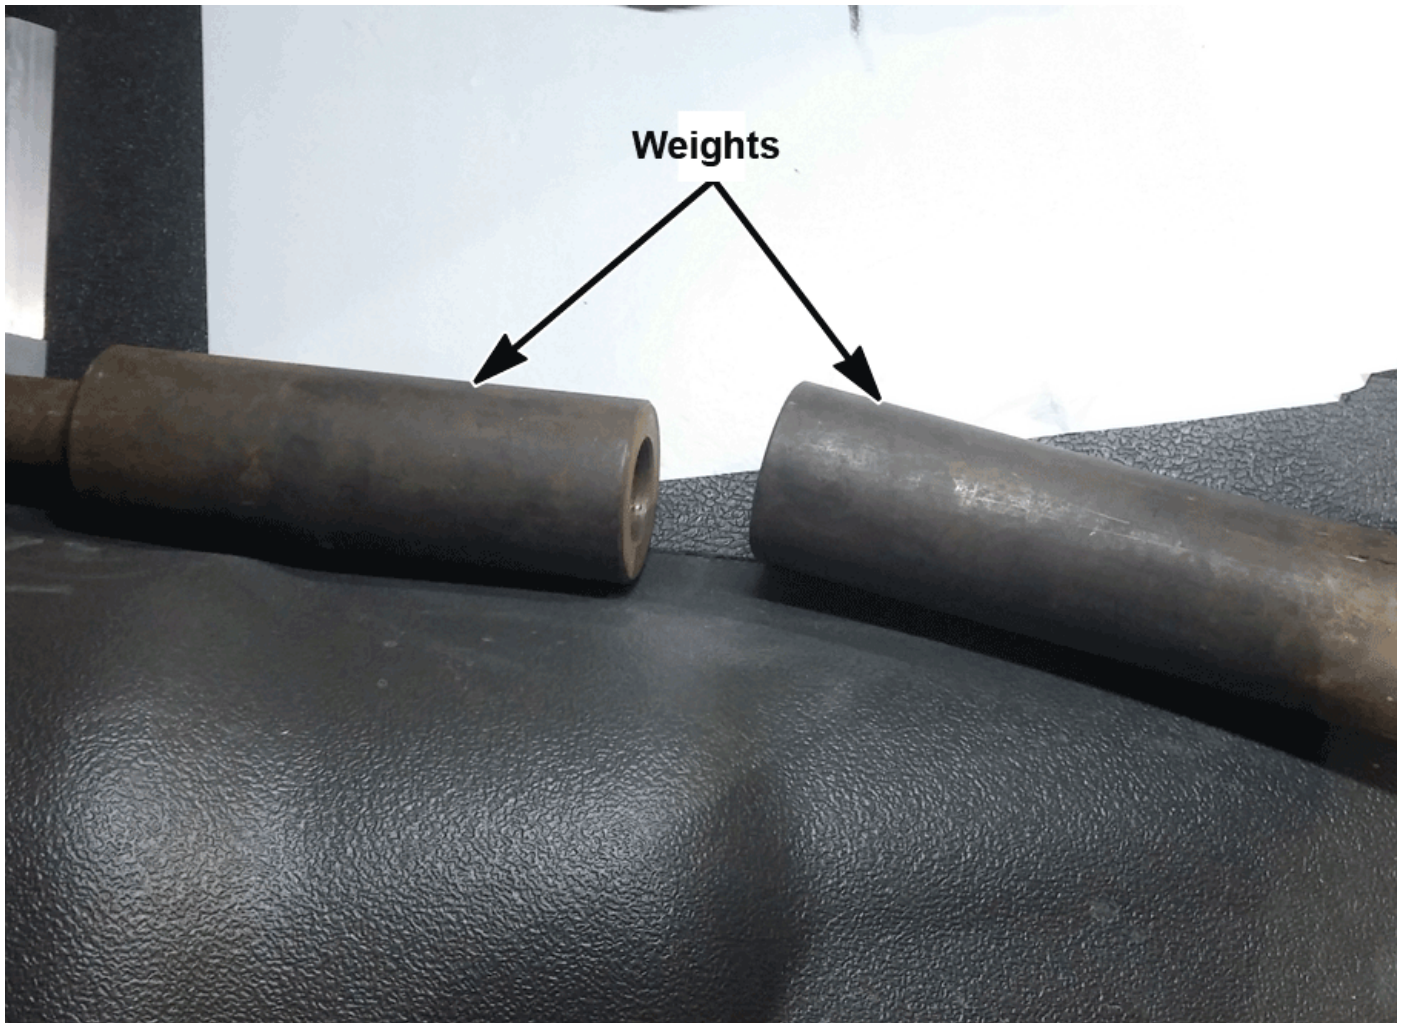

Figure 5: Apply Weight
8. Apply approximately 30 pounds of weight on the floor directly above the location where the urethane was applied (See Figure 5).